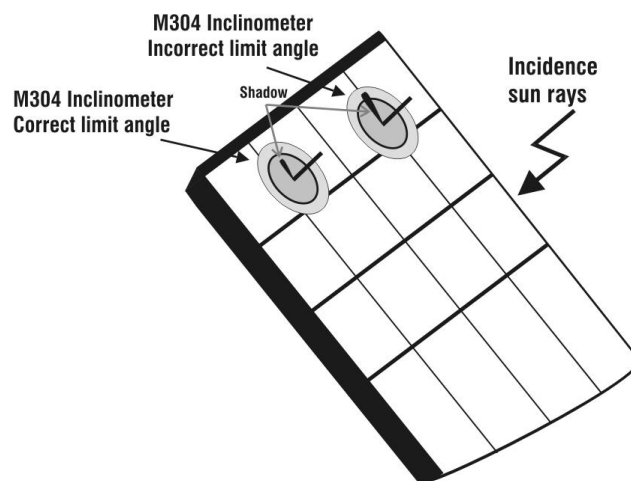

Fig. 8: Positioning the M304 inclinometer
17. Mount the M304 (inclinometer) supplied accessory, place and hold it on the plane of module. **Verify that the sun shadow falls on the disc within the “limit internal circle” on the disc itself (see Fig. 8). If this is not the case, the incidence angle between sun rays and the module surface is too high and not complying with the test conditions declared by the module manufacturer. As a consequence the measurements performed by the meter are not ok and all measurements steps shall be repeated at another daytime**